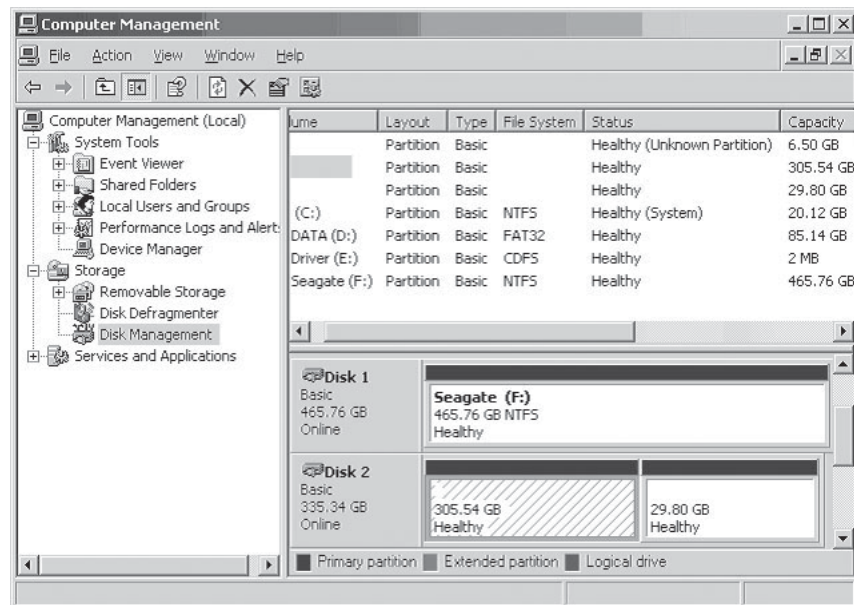

Figure 2: Windows Disk Management
1. Right click **Computer** or **My Computer**, click **Manage**, click **Disk Management**. Look for a **Healthy** disk without a name and drive letter assigned to it, see the shaded area in **Figure 2**.